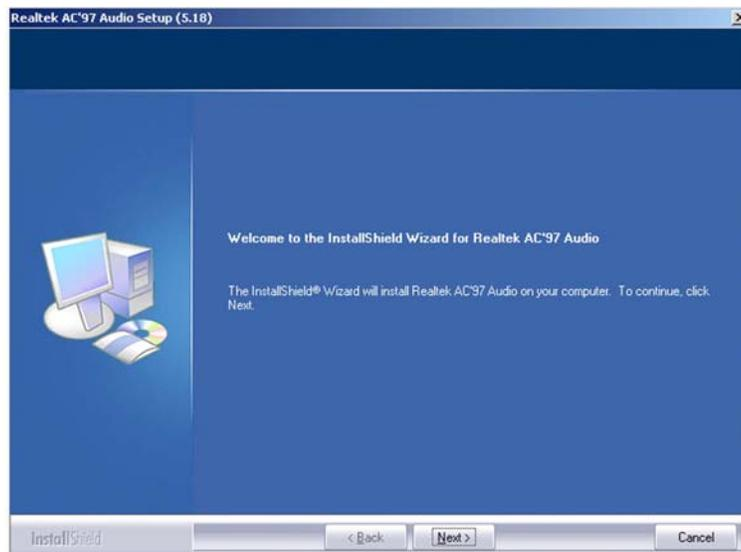

Figure 6-25: AC`97 Audio Driver Welcome Screen
Step 6: After the install shield is prepared, the welcome screen shown in **Figure 6-25** appears. To continue the installation process, click the “NEXT” button. The install shield starts to configure the new software as shown in **Figure 6-25**.